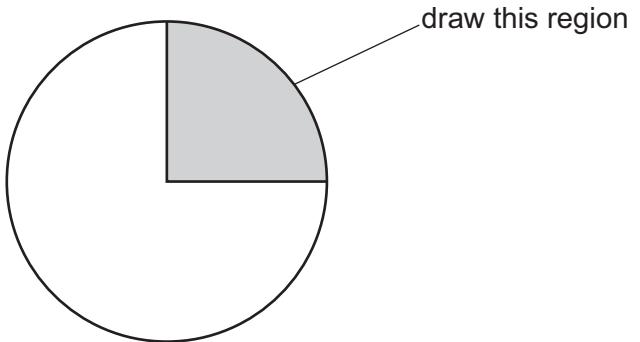

Fig. 2.1
- (a) (i) Draw a large plan diagram of the region of the stem on K1 indicated by the shaded area in Fig. 2.1. Use a sharp pencil.